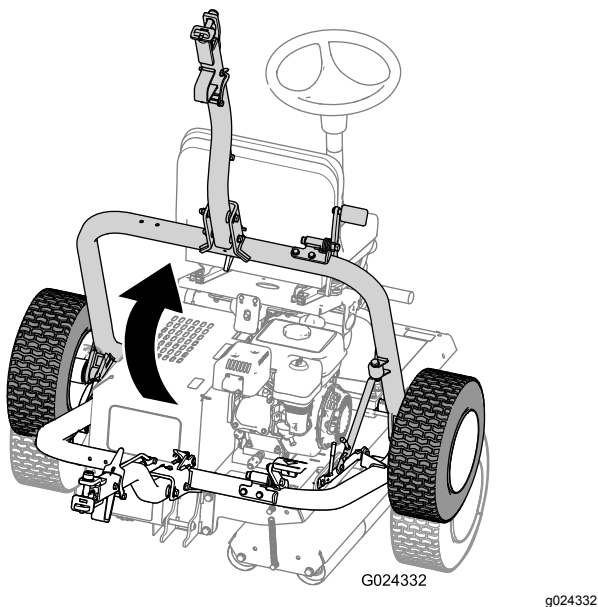

Figure 28
- D. Raise the hitch (Figure 28) until the latch lever locks in the slide detent (Figure 24).